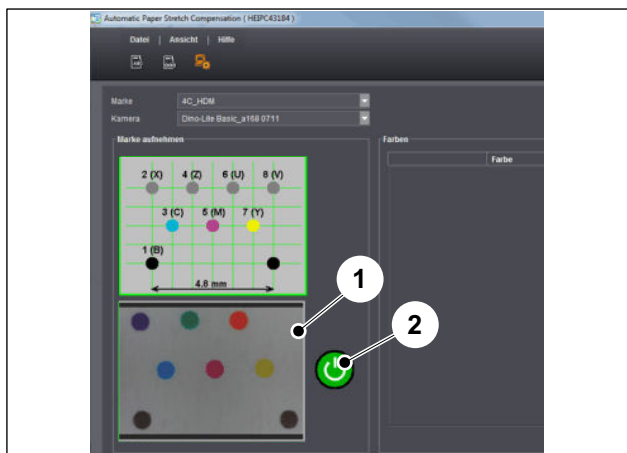

Fig. 18 Dialog box "Camera before image capture"
11. Adjust the digital microscope until all color dots are visible in the preview box (as in Fig. 18/1).
- Measurement with the wizard: The digital microscope takes a picture of the measuring mark after a set delay. The seconds remaining are displayed as red dots in the preview box (Fig. 18/1).
- Manual measurement: Press the green image button (Fig. 18/2).